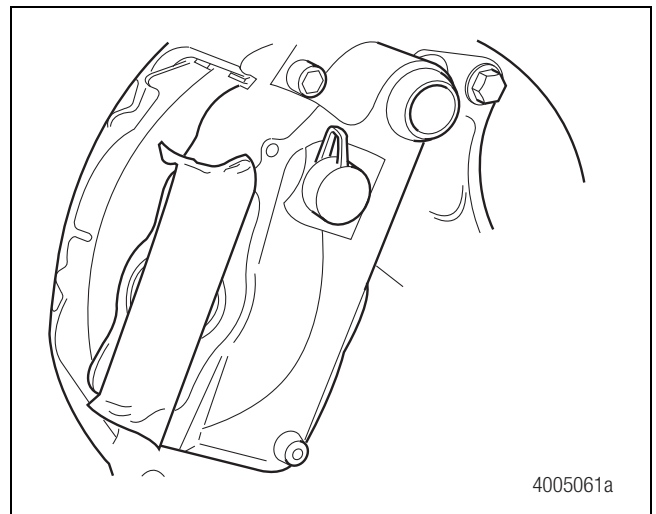

Figure 5.2
2. Cover the exposed air chamber mounting aperture with tape to prevent debris from entering the caliper housing assembly. Figure 5.2.